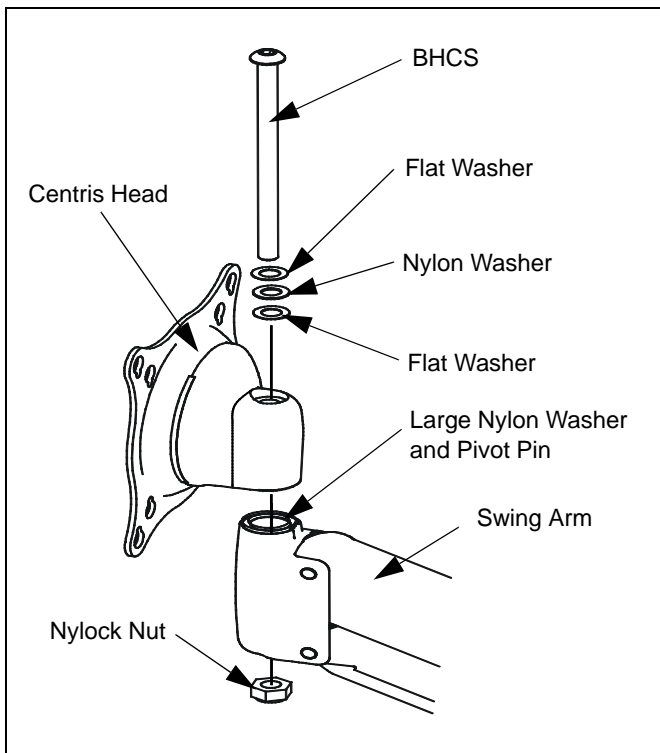

Figure 2: Remove Existing Centris Head
2. Remove four screws (not shown) attaching display to interface bracket. (See Figure 2)
4. Remove button head cap screw, washers, and retaining nut from display end of mount. (See Figure 2)